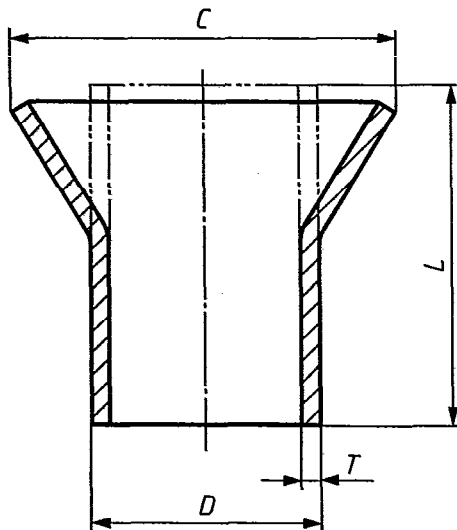

Figure 3
5.3 Drift expanding test (see figure 3)